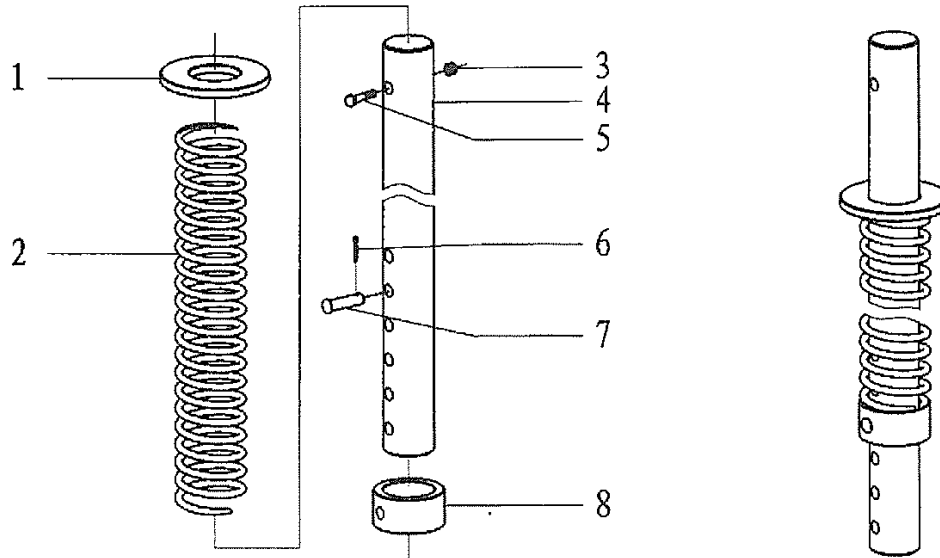

Fig26.
8.15 Fore guide pole assembly (Fig26. Table26)